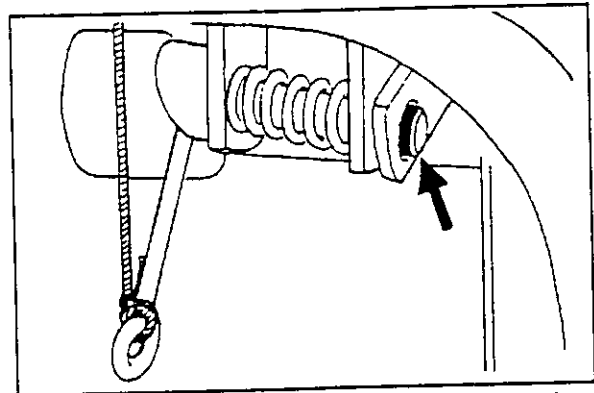

fig. 4-32
7. ... the pin for transport safety locks in place (fig. 4-32).